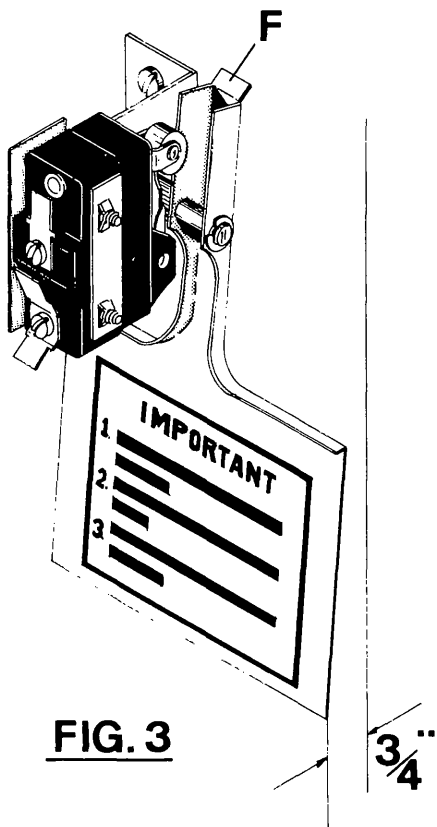

FIG. 1
2. Lay air switch assembly on flat surface. Adjust air blade by bending at "A" (Fig. 1) so that air blade lays flat and surface "B" is parallel to the flat surface.